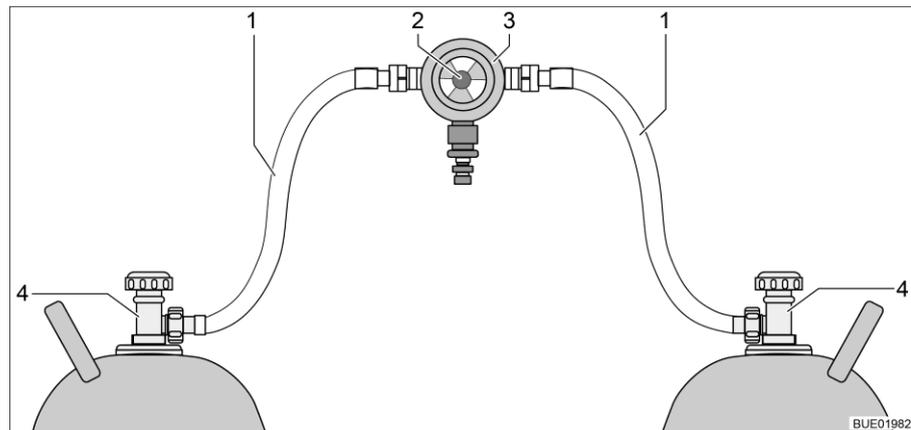
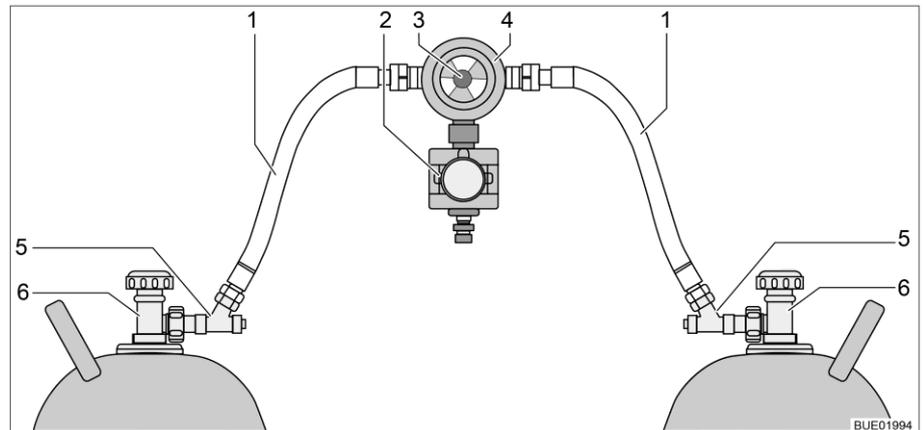

Fig. 112 Gas bottle switching facility
Fig. 113 Gas bottle switching facility with CPU
The gas bottle switching facility consists of a combined gas pressure regulator with reversing valve and indicator (Fig. 112,3). The gas bottle switching facility is installed between the two gas tubes (Fig. 112,1).
The gas bottle switching facility consists of a combined gas pressure regulator with reversing valve and indicator (Fig. 113,4), and an electrovalve (Fig. 113,2). The electrovalve blocks the gas supply to the vehicle in the event of a full braking, an accident, or an unusually great inclined position. The gas bottle switching facility is installed between the two gas tubes (Fig. 113,1) with hose break guards (Fig. 113,5).
Use the knob (Fig. 112,2 or Fig. 113,3) on the gas bottle switching facility to select which of the gas bottles is to be used as a primary bottle and which is to be used as a reserve bottle.
Only the electrical functions can be switched at the operating unit (Fig. 114). The regulator taps on the gas bottles (Fig. 112,4 or Fig. 113,6) must be opened and closed manually.
- Open the regulator taps of the gas bottles (Fig. 112,4 or Fig. 113,6).
- Press the hose break guards (Fig. 113,5) successively for 10 seconds.
- Use the knob (Fig. 112,2 or Fig. 113,3) on the switching facility to select the gas bottle which is to be the primary source of gas (primary bottle). Always turn the knob as far as it will go.
- Close the regulator taps of the gas bottles (Fig. 112,4 or Fig. 113,6).